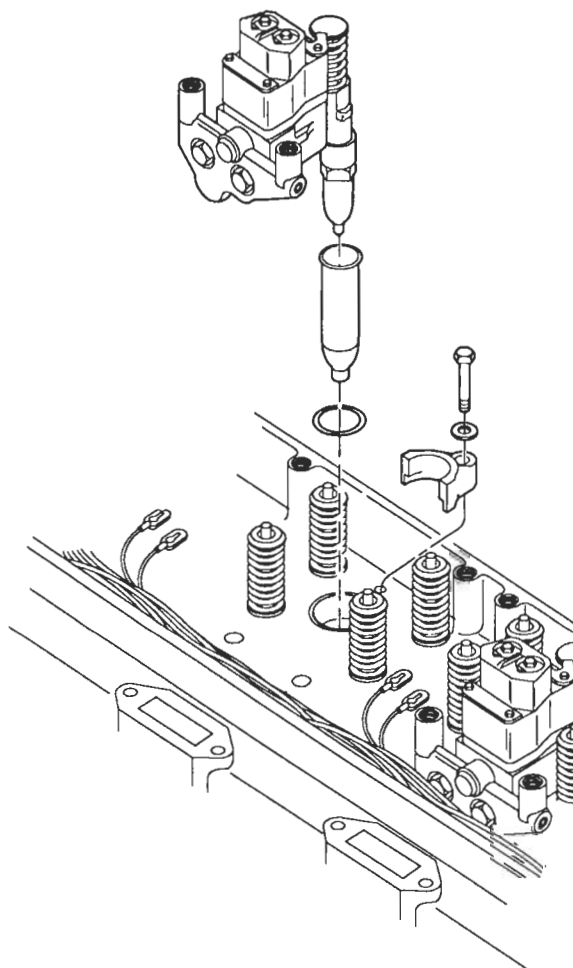

Figure 6. Electronic Unit Injector Installation
1. Insert the injector into its respective injector tube bore. Visually align the injector body for equal clearance between valve springs (there is no locating dowel pin on the underside of the Electronic Unit Injector). After locating the injector, press down on the top of the injector body with the heel of your hand to seat it in the injector tube (Figure 6.)